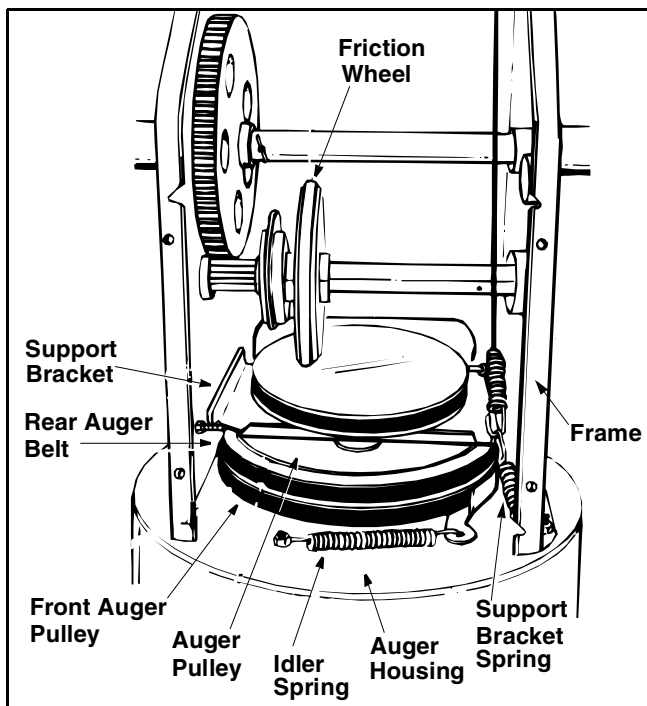

Figure 15
- Unhook the idler spring from the hex bolt on the auger housing. See Figure 15.
- Lift the rear auger belt from the auger pulley, and slip belt between the support bracket and the auger pulley. See Figure 15. Repeat this step for front auger belt.